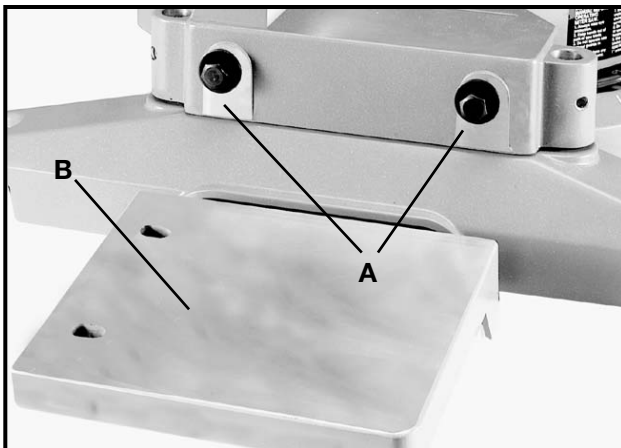
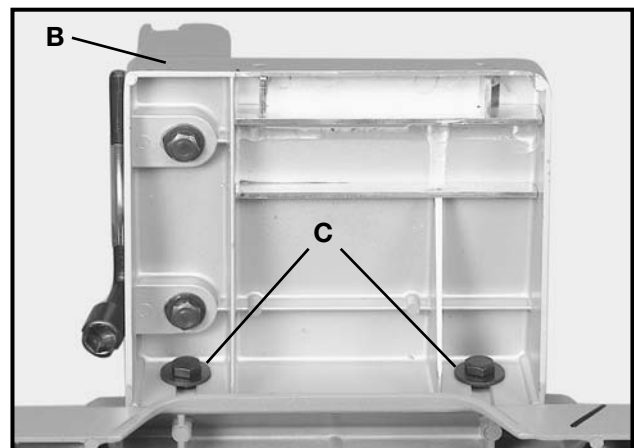
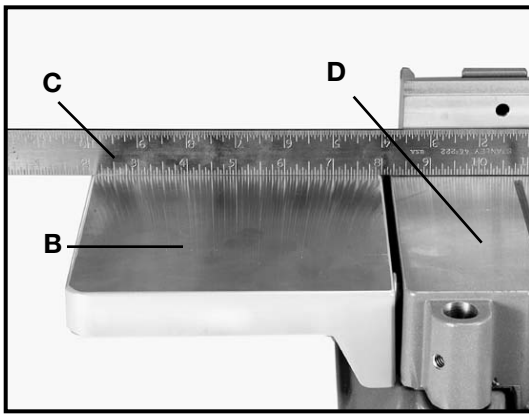

Fig. 7A
Fig. 7B
Fig. 7C
1. Attach flat washers to the two 3/4" screw assemblies (A) Fig. 7A, and thread into the threaded holes on left side of the saw.
2. Attach the table extension (B) Figs. 7A and 7B, to left side of saw table, making sure groove of table extension (B) is inside flat washers (C) as shown in Fig. 7B.
3. Use a straight edge (C) Fig. 7C, to make the extension table (B) even with saw table (D), and tighten the two screws (A) Fig. 7B.